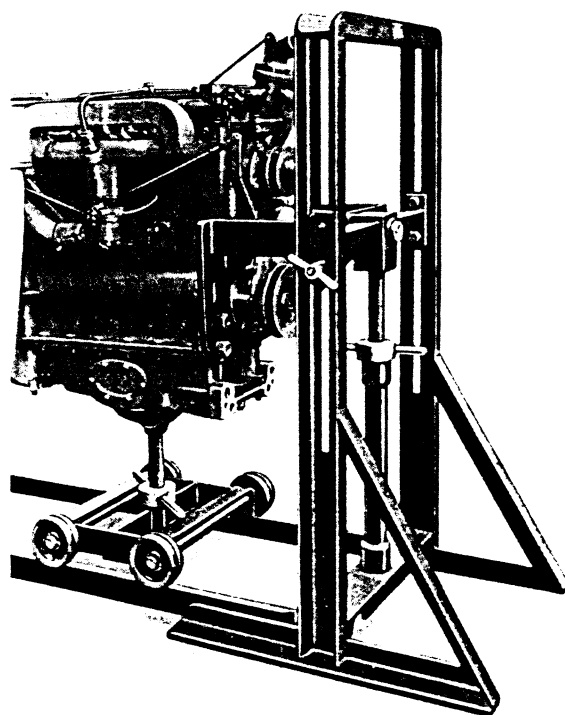

FIG. 28
10. Secure engine to front section of dismantling stand by means of four suitable bolts and nuts, as shown in Fig. 28. Ensure that all four bolts are located before any of the nuts are tightened.